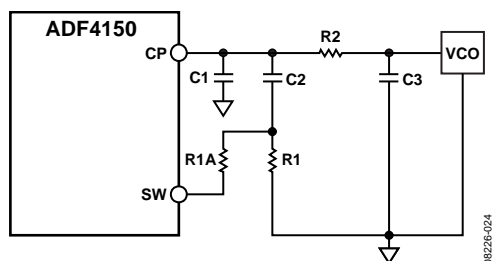

Figure 28. Fast Lock Loop Filter Topology—Topology 2
- An extra resistor (R1A) is connected directly from SW, as shown in Figure 28. The extra resistor is calculated such that the parallel combination of an extra resistor and the damping resistor (R1) is reduced to  $\frac{1}{4}$  of the original value of R1 (see Figure 28).